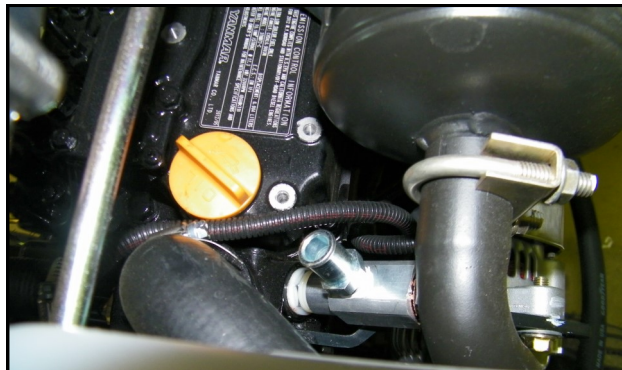

Fig. 8.2 (Remove Plug from Engine)
- 8.2 See Figure 8.2. For the supply line for the heater, remove the plug and sealing washer from the left side of the thermostat housing. Install the plug and sealing washer in the end of the sending unit adaptor. Install a small nylon washer onto the other end of the sending unit adaptor and install the hex bushing. Install the assembly into the engine block where the plug and sealing washer were removed. If the sending unit adaptor does not tighten so that the port on the side for the 3/8" NPT nipple orients as shown, then remove it and install another nylon washer and try again. Install the 3/8" NPT nipple into the side port of the adaptor, using Teflon tape (not provided).